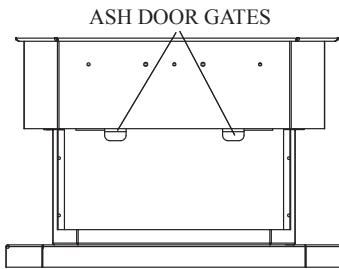
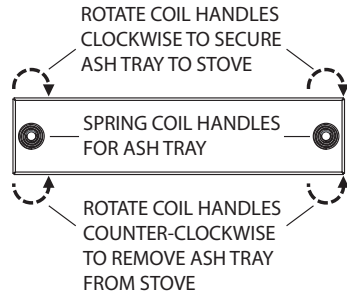

Figure 28. Ash gates for a **KOZI** pellet stove.
Figure 29. Coil handles on the ash tray for the KSH 120 and Model 100 Insert.
6. If your unit is equipped with a large ash tray, open the ash tray slightly and pull on each ash gate (Figure 28) until the ash falls from the burn chamber into the ash tray. Do NOT pull the gates too far open as they may fall out. For models equipped with the small ash tray (KSH 120 & Model 100 Insert, Figure 29) turn the 2 coil handles counter-clockwise to release the latch mechanism and pull the ash tray out. For models with no ash tray, scoop out the ashes into a metal container with a